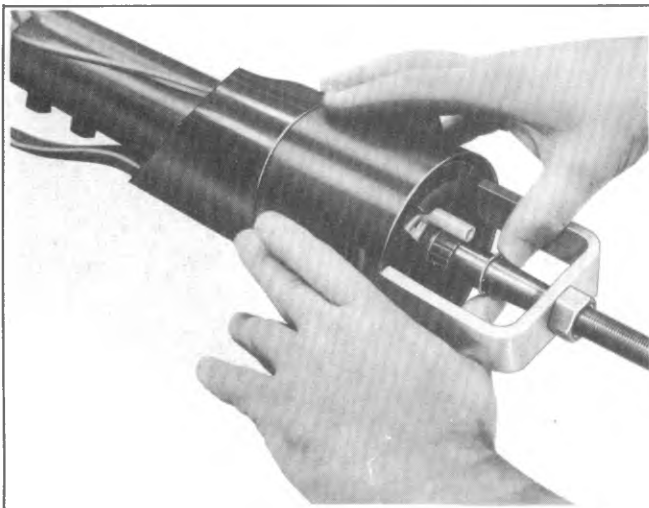

Fig. 3B-55--Installing Snap Ring
6. Place the lock plate onto the end of the shaft. Screw the center post of Lock Plate Compressing Tool J-23653 onto the steering shaft as far as it will go. Place a NEW snap ring over the center post. Place the "C" bar over the center post and then compress the lock plate by turning the nut clockwise. Slide the new snap ring down the tapered center post and into the shaft groove (fig.3B-55). Remove Tool J-23653.